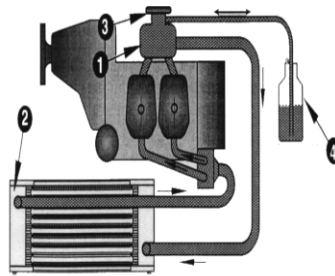

Figure 7–2 Scheme of cylinder head cooling system
Engine cooling is combined, cylinder heads are cooled by water, cylinders are cooled by air. Cooling circuit of cylinder heads is designed as a closed system containing pump, expansion reservoir (1) with pressure closure (3), cooler of cooling liquid (2) and drainage reservoir (4). Scheme of cylinder head cooling system is shown in Fig. 7–2.